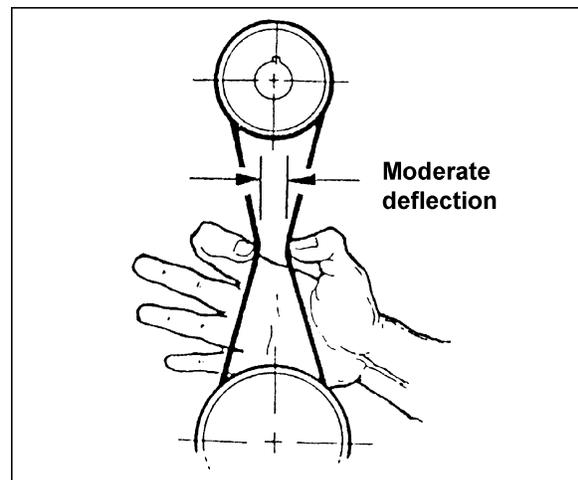

Figure 8
5. Let the motor slide back down and push down on it until the belt is properly tensioned. NOTE: There should be only moderate deflection, usually about $\frac{1}{2}$ " in the belt midway between the pulleys when using light finger pressure (Figure 8).